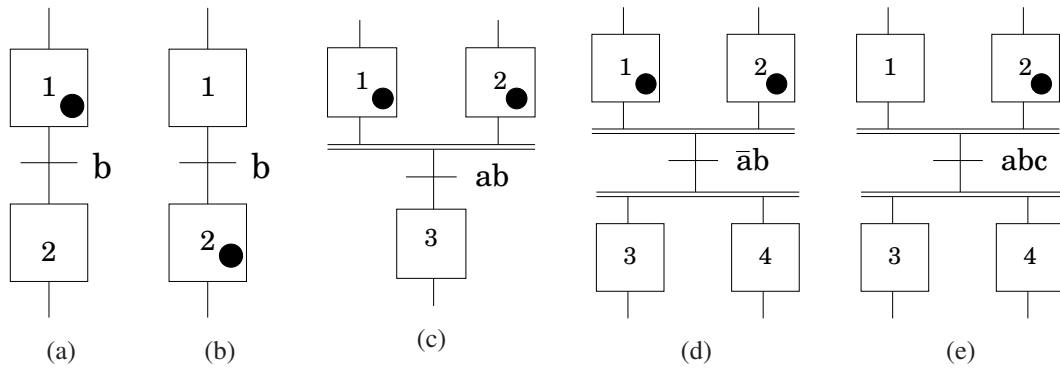

Figure 4: The five Grafcet diagrams in Problem 6.
6. What happens if the logical signal, b, becomes true in the functional diagrams in Figure 4.